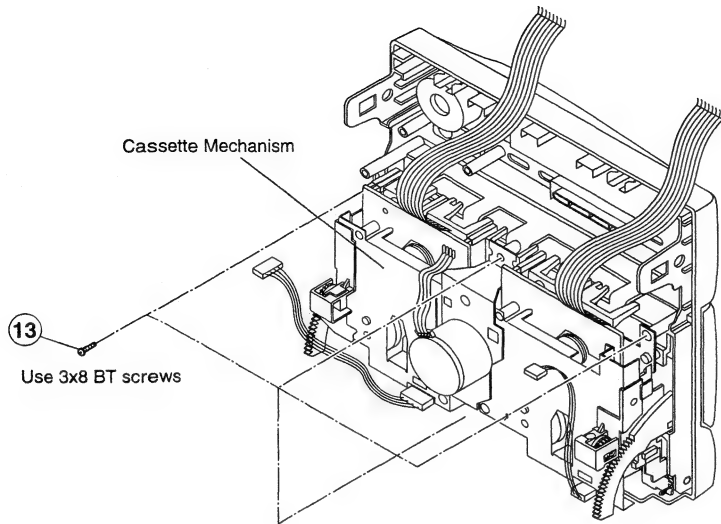
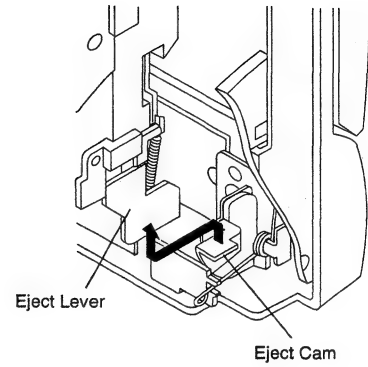

Fig. 10a
Fig. 10b
(1) Remove 4 screws ⑱ from the Display P.W.B. Board.
(2) Remove the Display P.W.B. Board. Note that the key buttons are also removed at this point.
10. **Removal of Cassette Mechanism (Fig. 10a & Fig. 10b)**